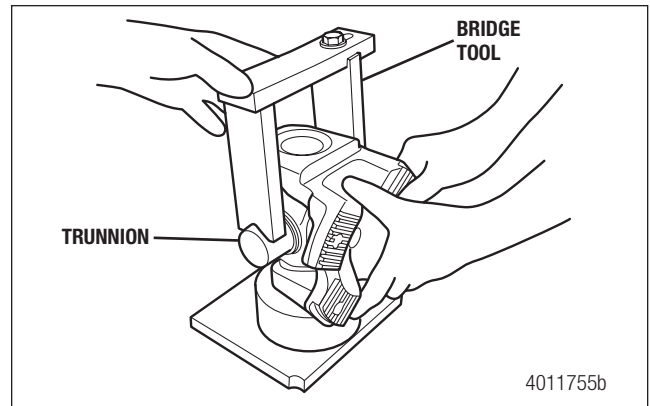

Figure 5.80
6. Install the press bridge tool and press DOWN. Figure 5.80.